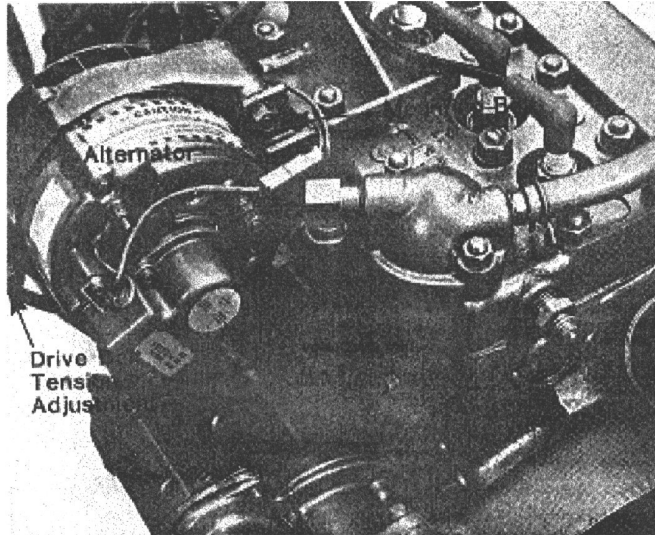

FIGURE 11 - ALTERNATOR REMOVAL
2. Disconnect two wires and tag for re-installation (see Figure 11).